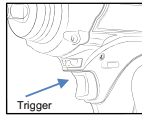

Fig. 5
- To start the tool, simply press the trigger . Tool speed is increased by increasing pressure on the trigger . Release the trigger to stop . (Fig . 5)